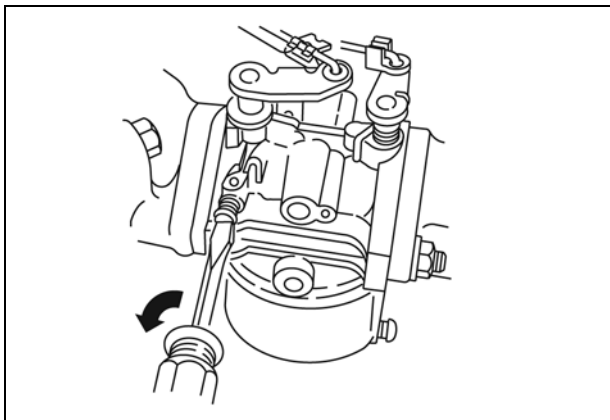

Figure 23
- Turn idle mixture screw clockwise until it just seats. **DO NOT FORCE**. Turn screw counter-clockwise 1/2 turn (Figure 23). This setting will permit engine to start.